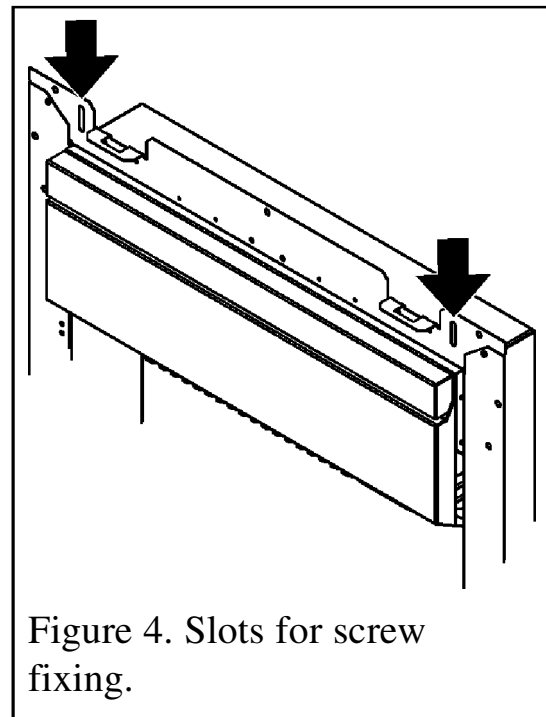

Figure 4. Slots for screw fixing.
2. There are two slotted holes in the top of the heater (See figure 4). Mark through the slotted holes so that their position is clear when the heater is removed.